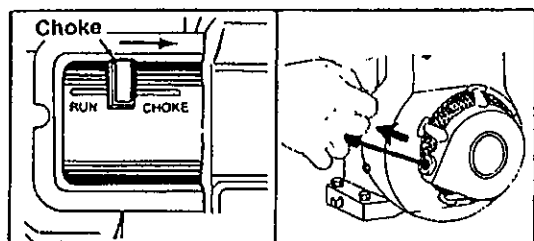

FIGURE 6
2. Make certain the forward clutch handle is in the neutral position (released). See figure 6.
3. Place the throttle control lever in FAST position. See figure 6.
5. Grasp starter handle (see figure 6) and pull rope out slowly until engine reaches start of compression cycle (rope will pull slightly harder at this point). Let the rope rewind slowly.
1. Move throttle control lever to STOP position. See figure 6.